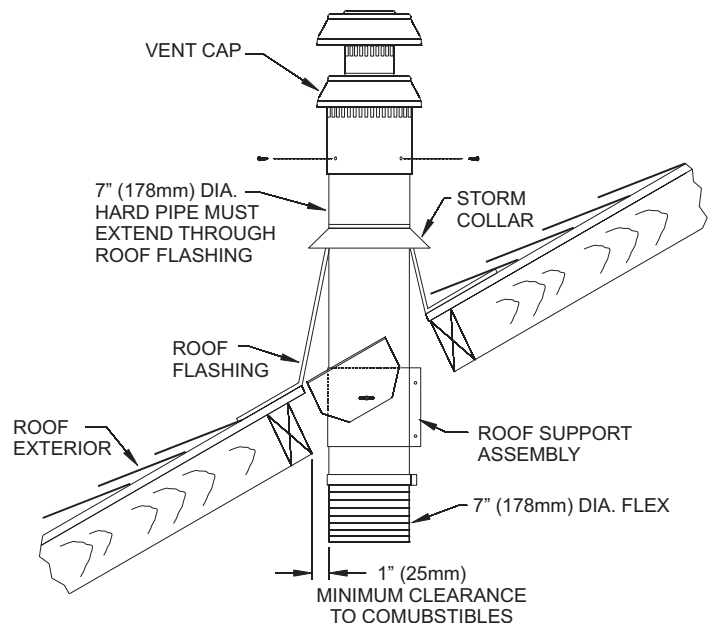

Figure 40
19. Once the lower connections are made and the flex pipe is secured with support bands as required (3 feet minimum between supports) then the roof flashing can be installed. **See Figure 40.**
22. To complete the installation, install the vent termination cap to the top of the hard vent pipe assembly. Mate up the flue and outer telescopes with the hard pipe assembly, then secure by installing a minimum of two (2) sheet metal screws into the overlapped flanges of the cap and pipe.